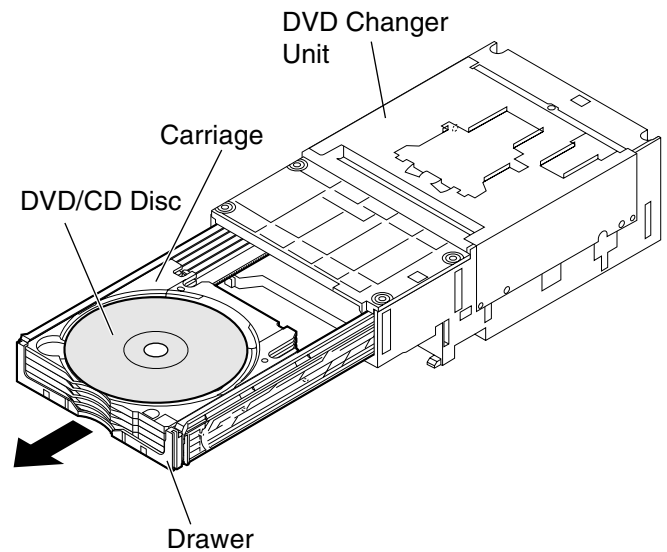

Figure 2
2. Pull the drawer to the front like the Figure 2.